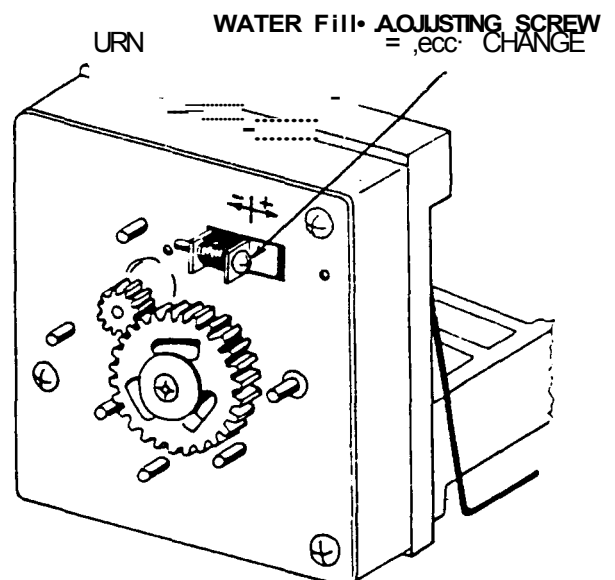

FIG. 3
- a. Water Valve Switch needs adjusting. Remove front cover and adjust screw. (Fig. 3)